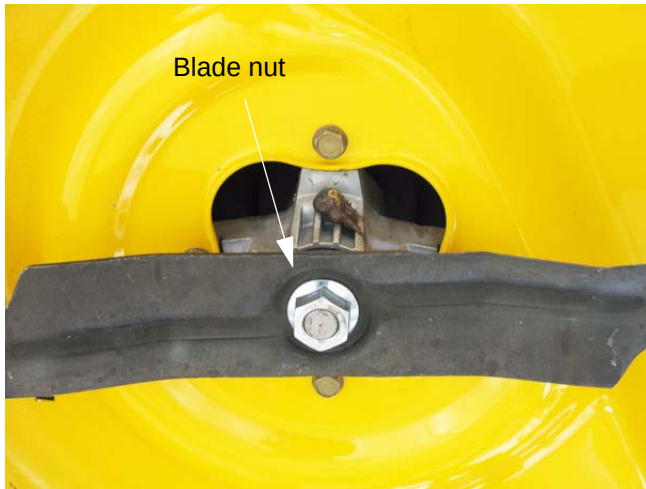

Figure 8.3
2. Remove the blade nuts using an impact wrench and a 15/16" socket. See Figure 8.3.